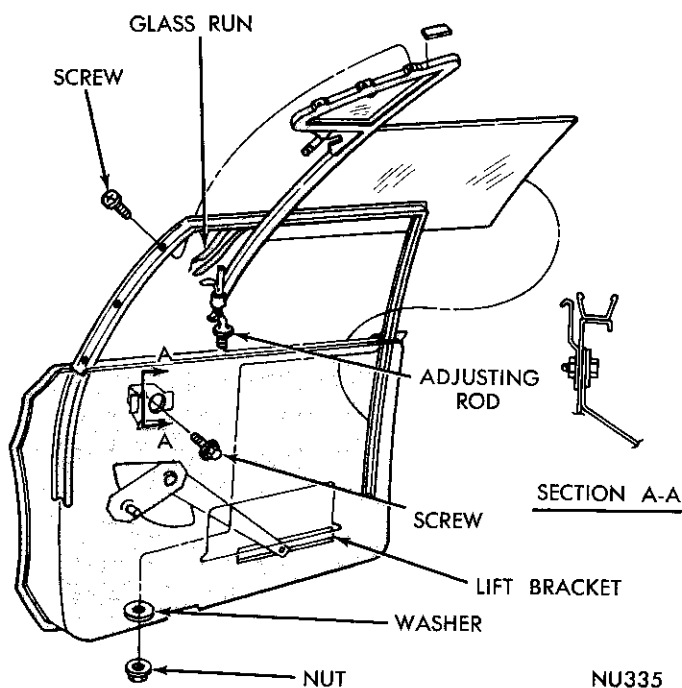

Fig. 51—Glass Replacement
- (2) Remove division bar adjusting rod nut and washer (Fig. 51).
- (3) Remove screw assembly attaching vent wing frame to outside belt reinforcement.
- (4) Remove vent wing frame to door frame screws.
- (5) Remove lift channel to door glass fastener screws.
- (6) Lift vent wing and door glass out of panel.